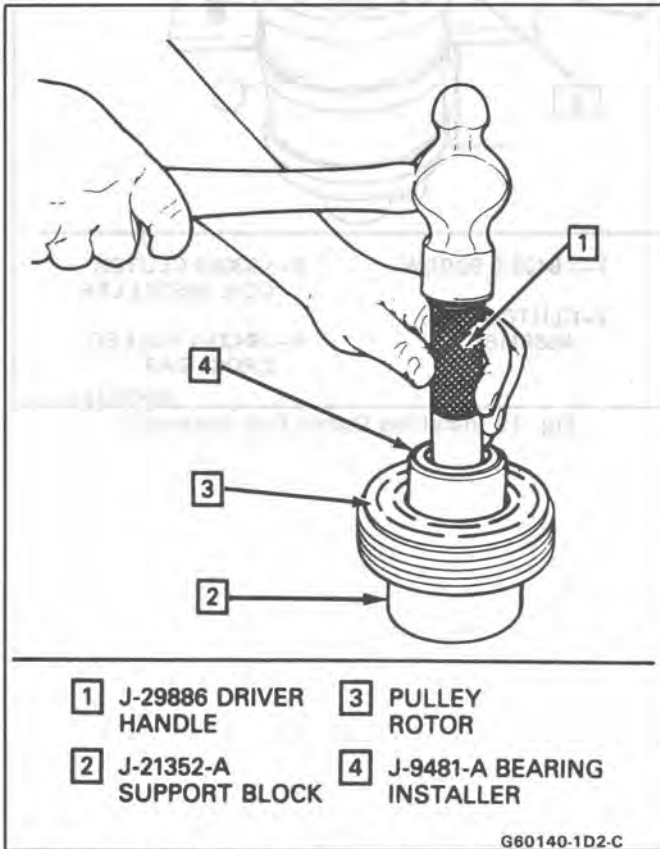

Fig. 14 Installing Pulley Rotor Bearing
1. Place the pulley rotor on the J-21352-A support block to fully support the rotor hub during bearing installation (Fig. 14).
fully into the hub (Fig. 14). The installer will apply force to the outer race of the bearing if used as shown.